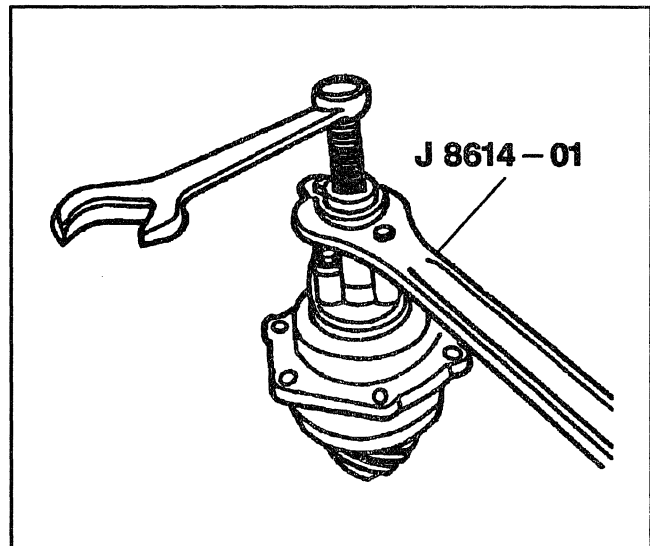
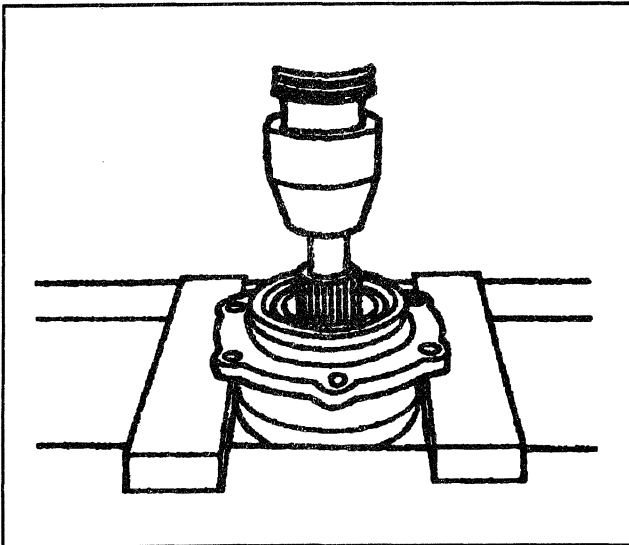
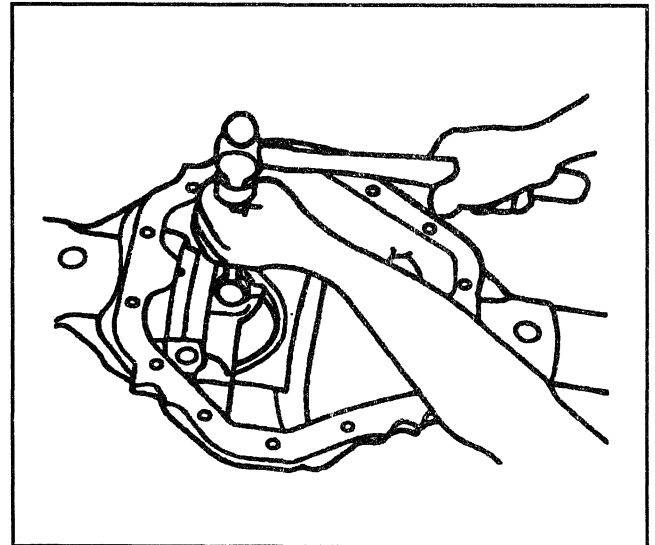
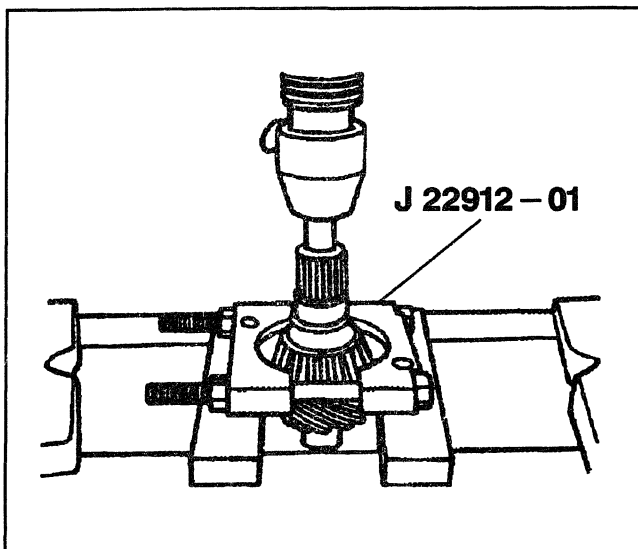

Figure 5—Removing the Pinion Flange
Figure 6—Pressing the Drive Pinion from the Cage
Figure 8—Removing the Pilot Bearing
Figure 7—Removing the Pinion Inner Bearing
20. Pinion flange using J 8614-01 (Figure 5).
21. Pinion (14) from the pinion cage (10).
- Place the cage into an arbor press as shown in (Figure 6) and press the pinion from the cage. Do not let the pinion fall.
22. Collapsible spacer (12) from the pinion.
23. Inner bearing (13) from the pinion (14).
- Press the bearing from the pinion using J 22912-01 (Figure 7).
24. Pinion seal (5) from the cage.
25. Front bearing (6) from the cage.
27. Pilot bearing (15) from the axle housing using a hammer and brass drift (Figure 8).